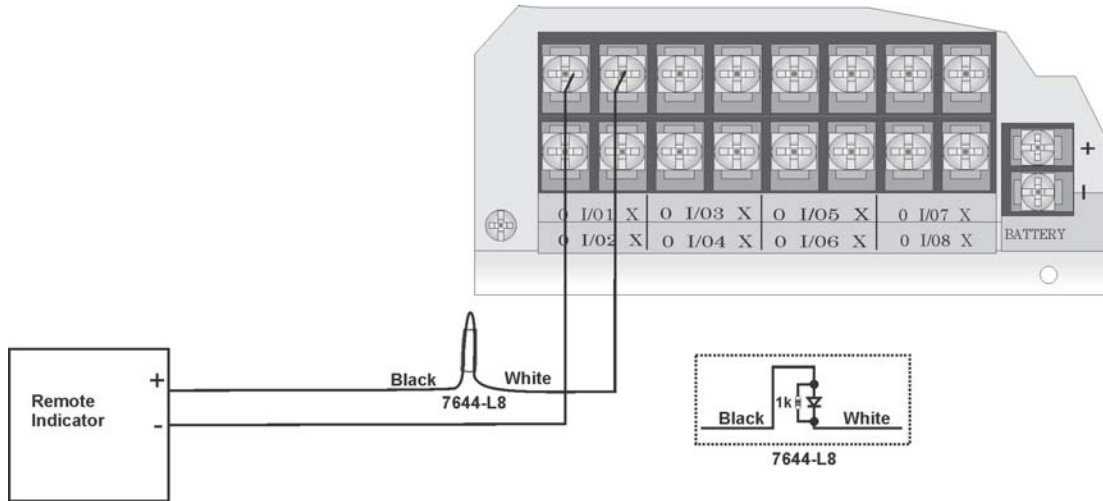

Figure 4-45 Polarity Reversal Connection Using the 7644
1. Wire the 7644 to the control panel as shown in Figure 4-45. Do not install an EOL resistor on the terminals of the Flexput circuit used.